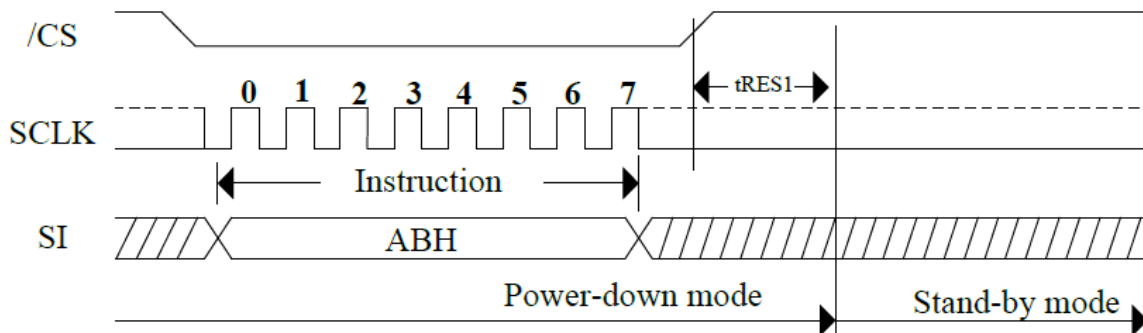

Figure 24. Release Power-Down Sequence Diagram
The Release from Power-Down or Device ID instruction is a multi-purpose instruction. It can be used to release the device from the Power-Down state or obtain the devices electronic identification (ID) number. See Figure 24, to release the device from the Power-Down state, the instruction is issued by driving the /CS pin low, shifting the instruction code “ABH” and driving /CS high. Release from Power-Down will take the time duration of t_{RES1} (See AC Characteristics) before the device will resume normal operation and other instruction are accepted. The /CS pin must remain high during the t_{RES1} time duration.